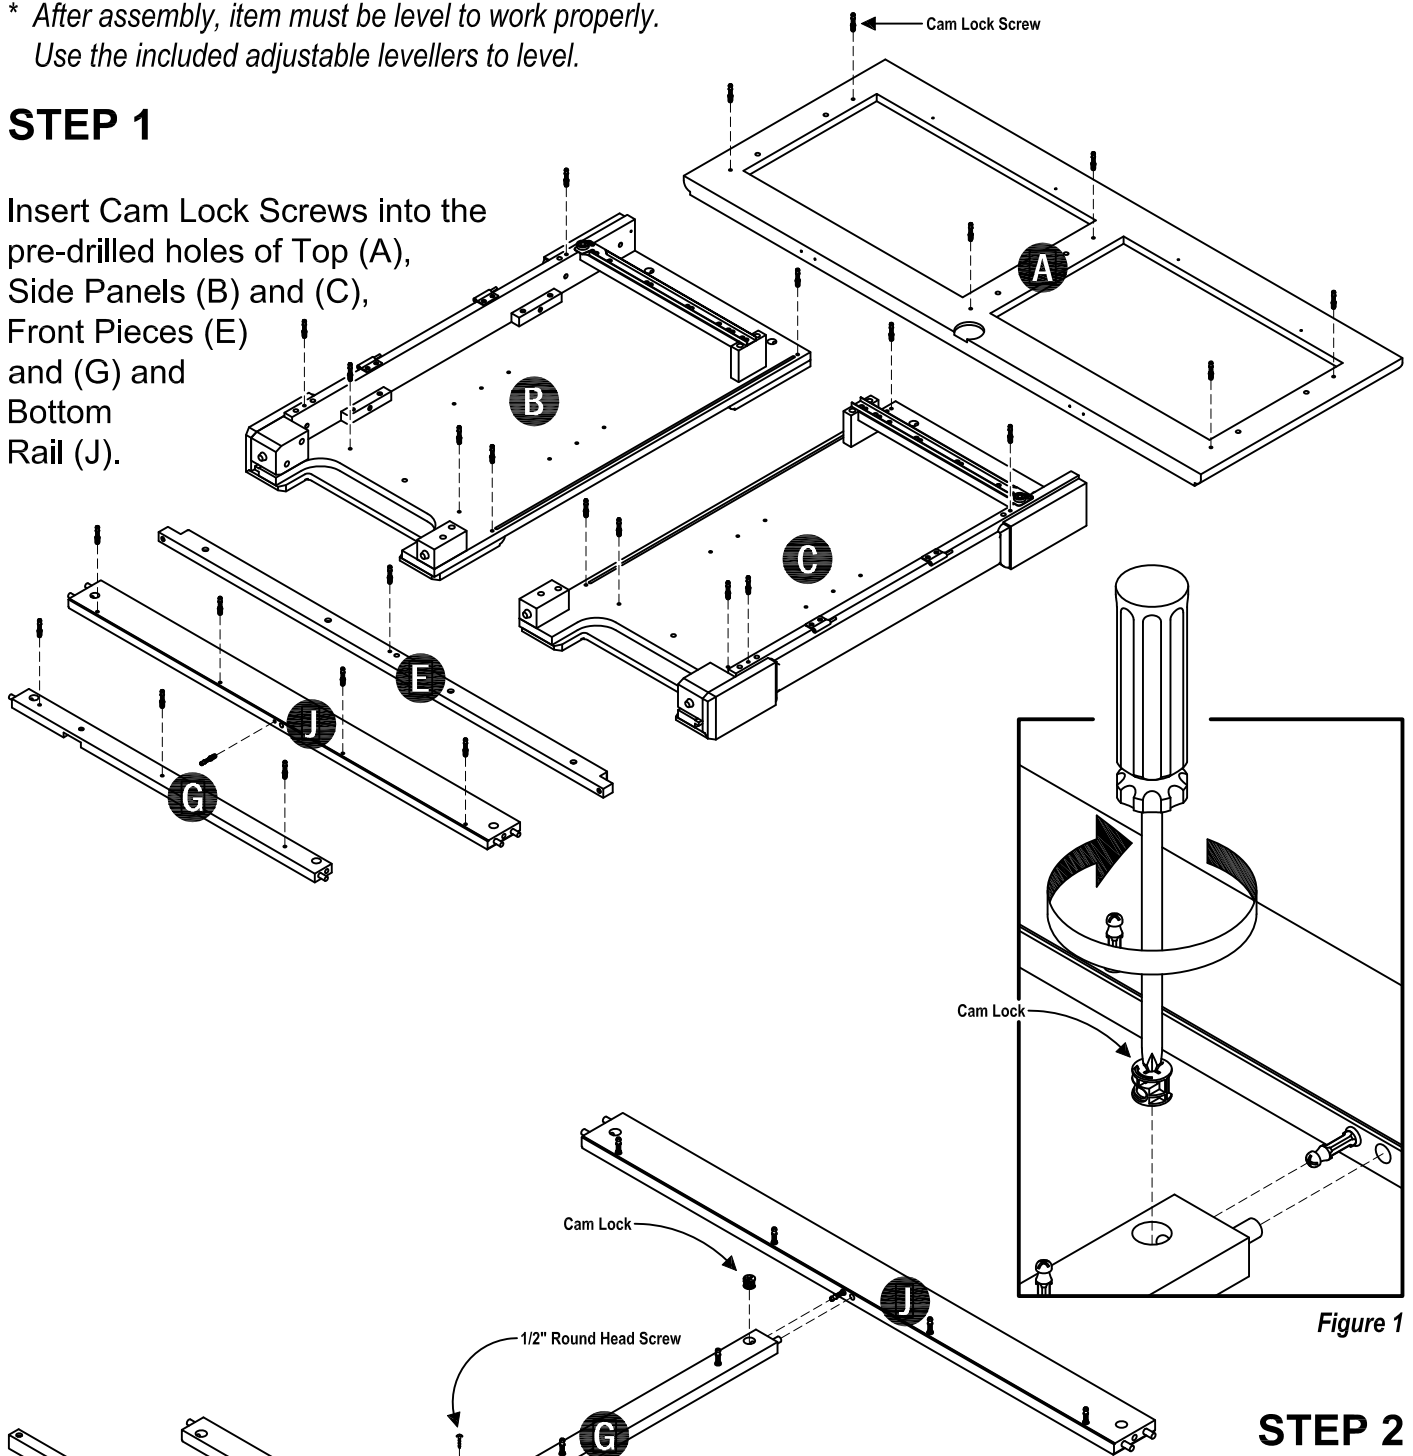

Figure 1
Attach Front Piece (E) and Bottom Rail (J) to Front Piece (G) with Cam Locks. (see Figure 1)